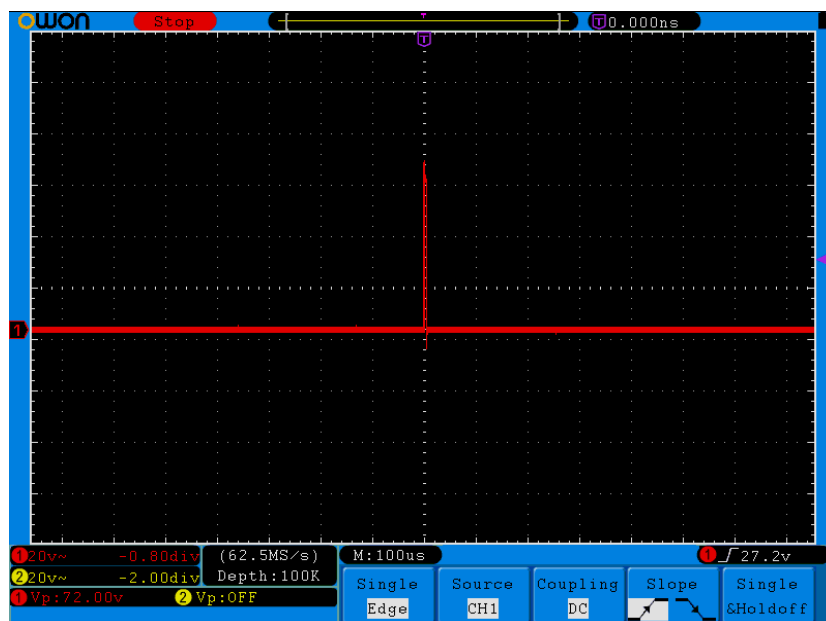

Figure 7-3 Capturing a Single Signal
- (5) Press the **F2** button to choose **Peak detect**.
- (6) Press the **Trigger Menu** button to display the Trigger menu.
- (7) Press the **H1** button to display the Trigger Type menu.
- (8) Press the **F1** to choose **Single** as the type.
- (9) Turn the **M** knob to choose **Edge** as the mode.
- (10) Press the **H2** button to display the **Source** menu.
- (11) Press the **F1** button to choose **CH1** as the source.
- (12) Press the **H3** button to display the Coupling menu; press the F2 button to choose **DC** as the Coupling.
- (13) Press the **H4** button to choose  (rising) as the Slope.
- (14) Rotate the **TRIG LEVEL** knob and adjust the trigger level to the roughly 50% of the signal to be measured.
- (15) Check the Trigger State Indicator on the top of the screen, if it is not Ready, push down the **Run/Stop** button and start acquiring, wait for trigger to happen. If a signal reaches to the set trigger level, one sampling will be made and then displayed in the screen. By using this approach, a random pulse can be captured easily. For instance, if we want to find a burst burr of high amplitude, set the trigger level to a slightly higher value of the average signal level, press the **Run/Stop** button and wait a trigger. Once there is a burr occurring, the instrument will trigger automatically and record the waveform during the period around the trigger time. By turning the **HORIZONTAL POSITION** knob in the horizontal control area in the panel, you can change the horizontal triggering position to obtain the negative delay, making an easy observation of the waveform before the burr occurs (see *Figure 7-3*).